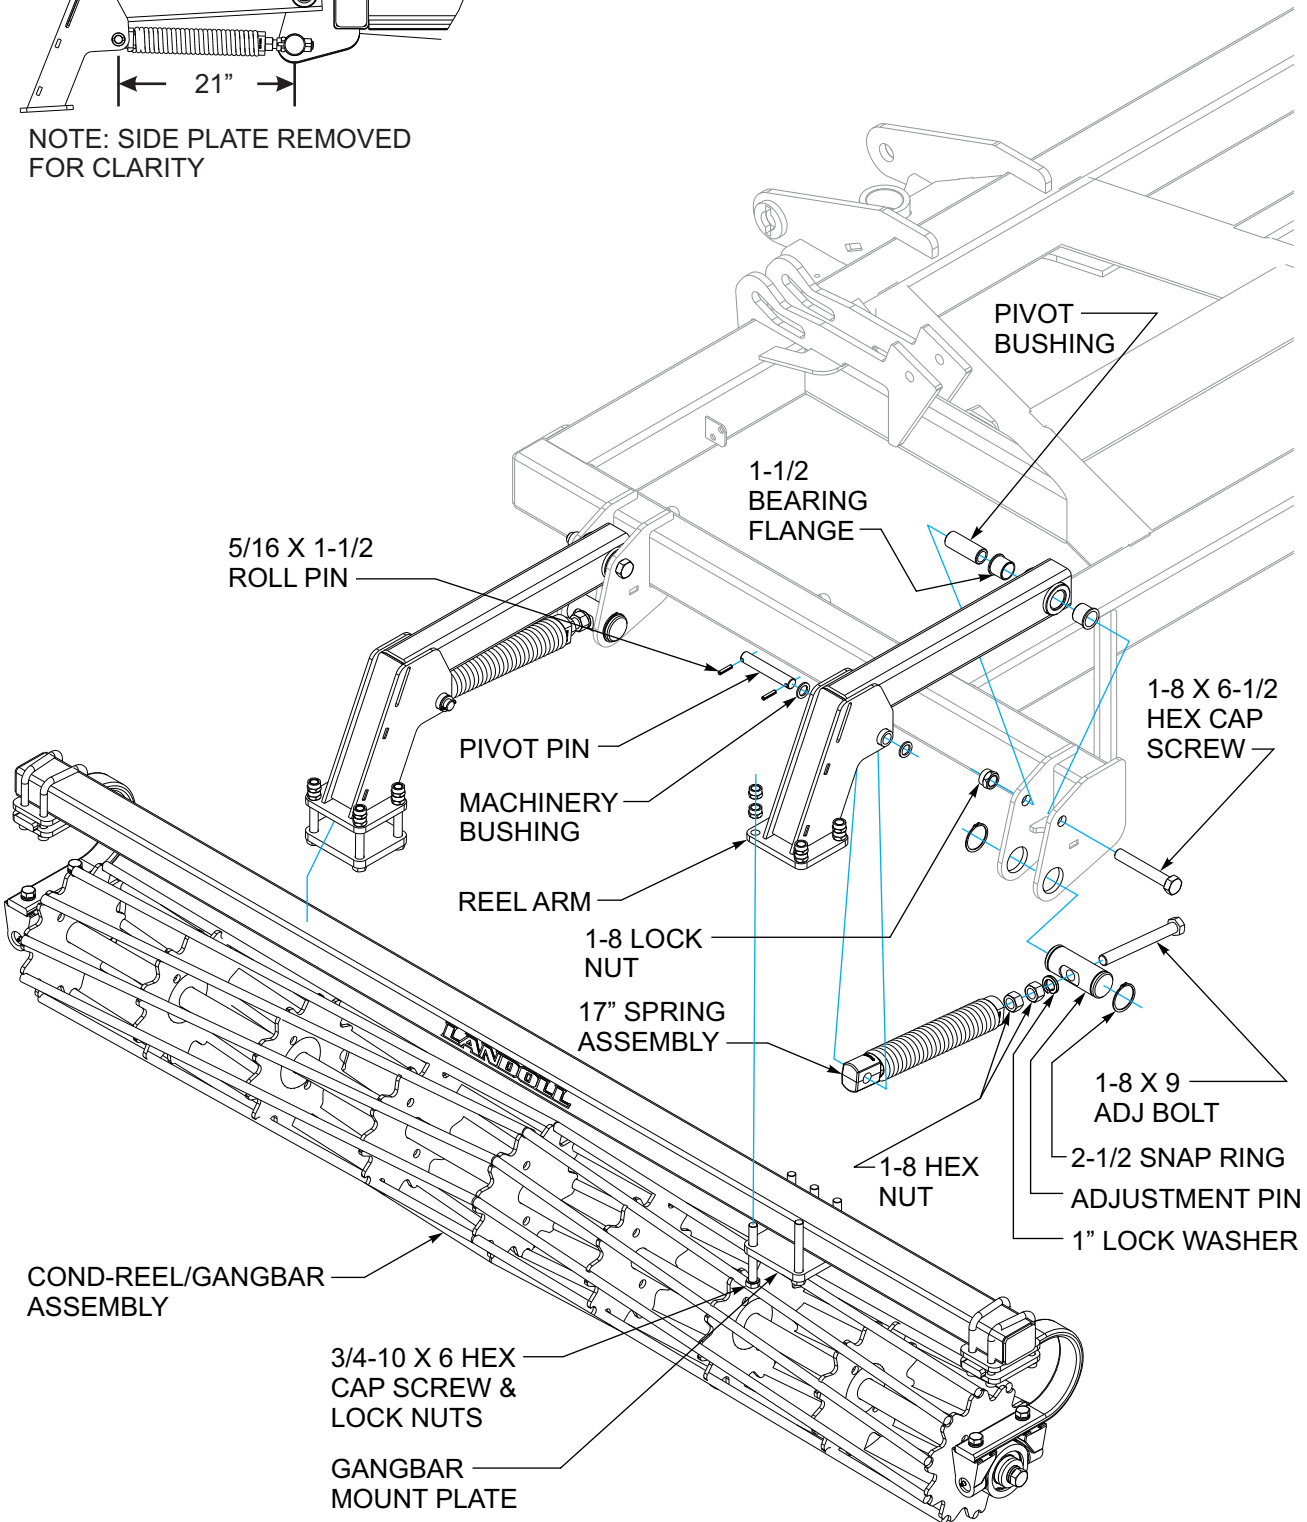
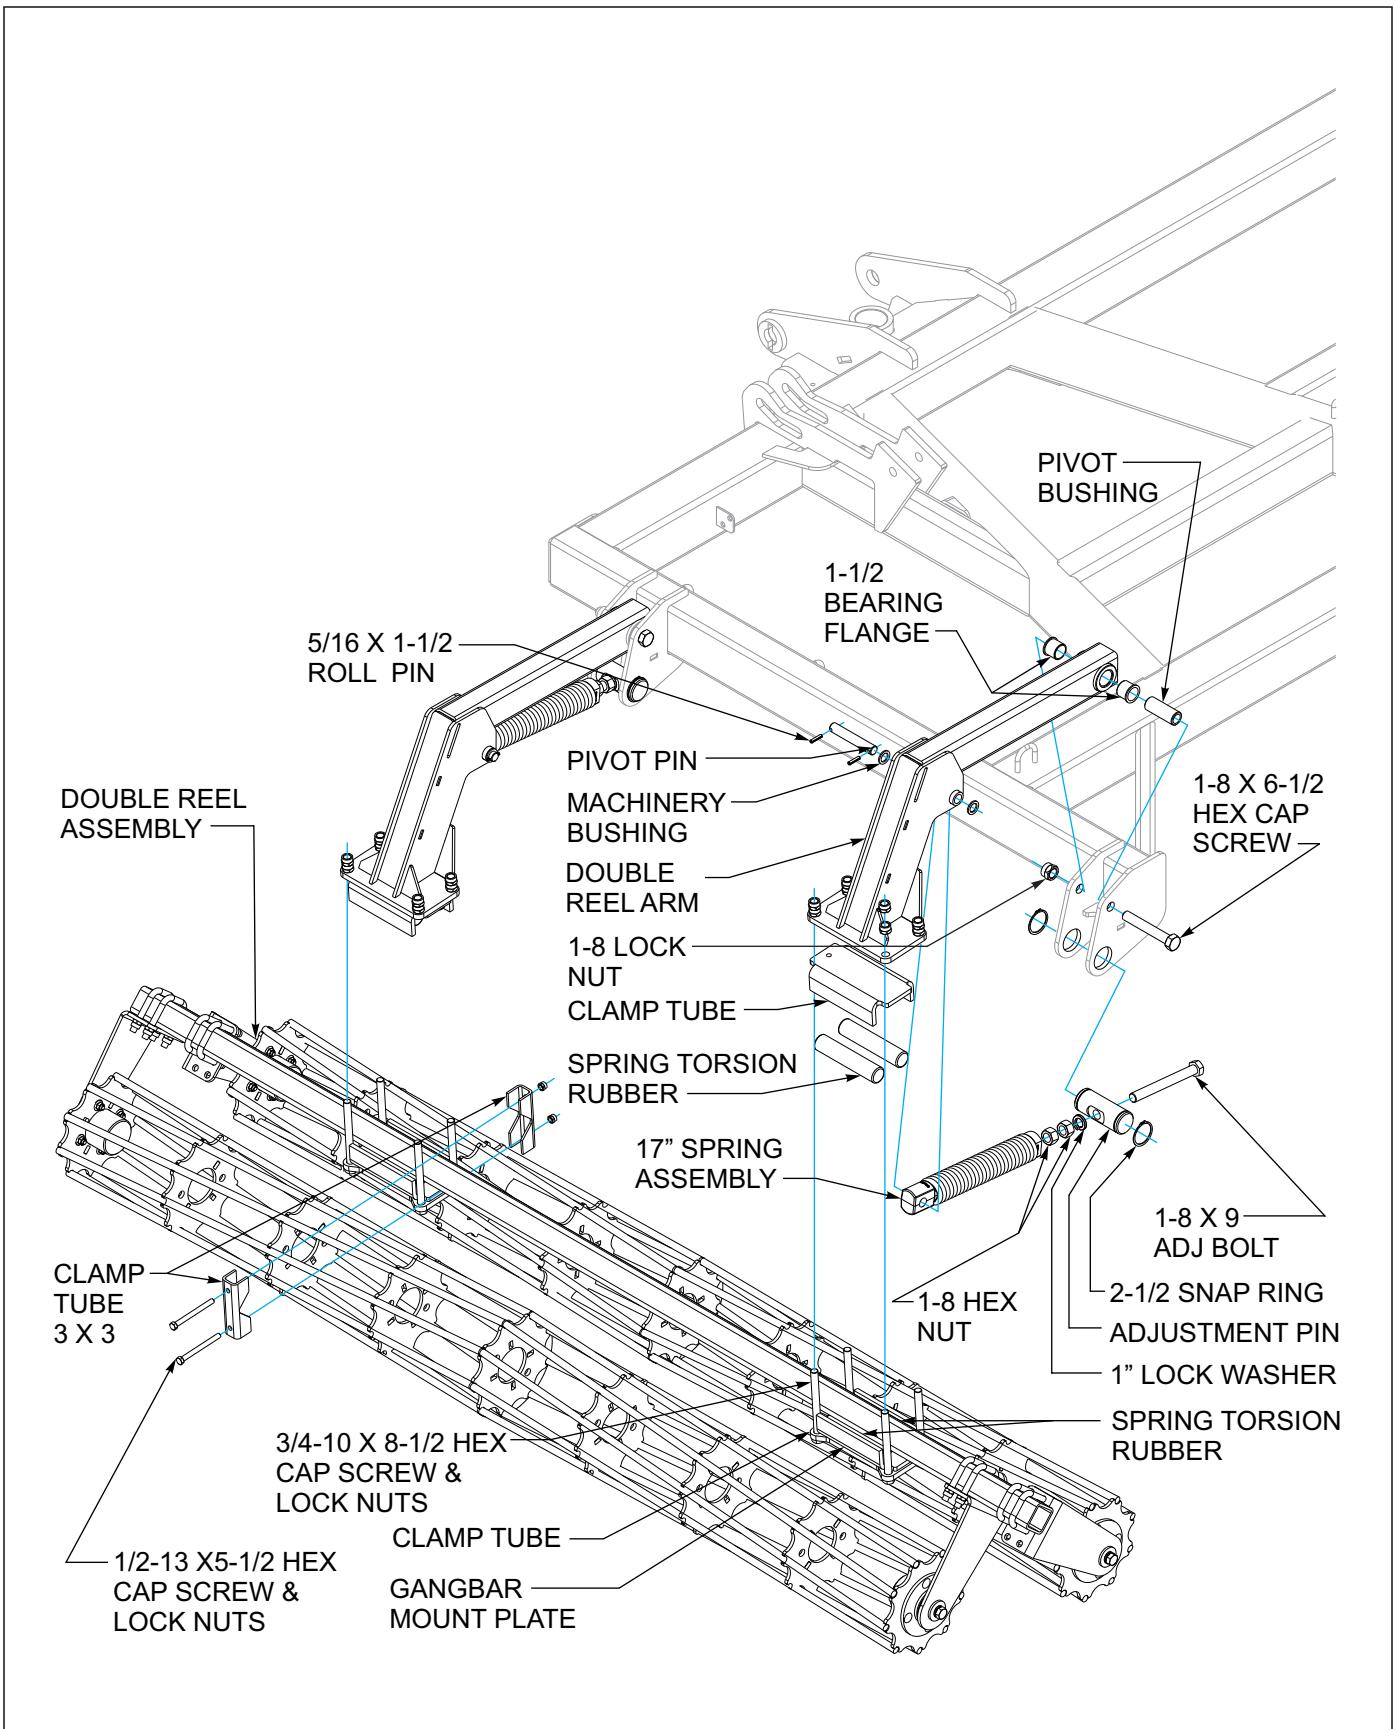
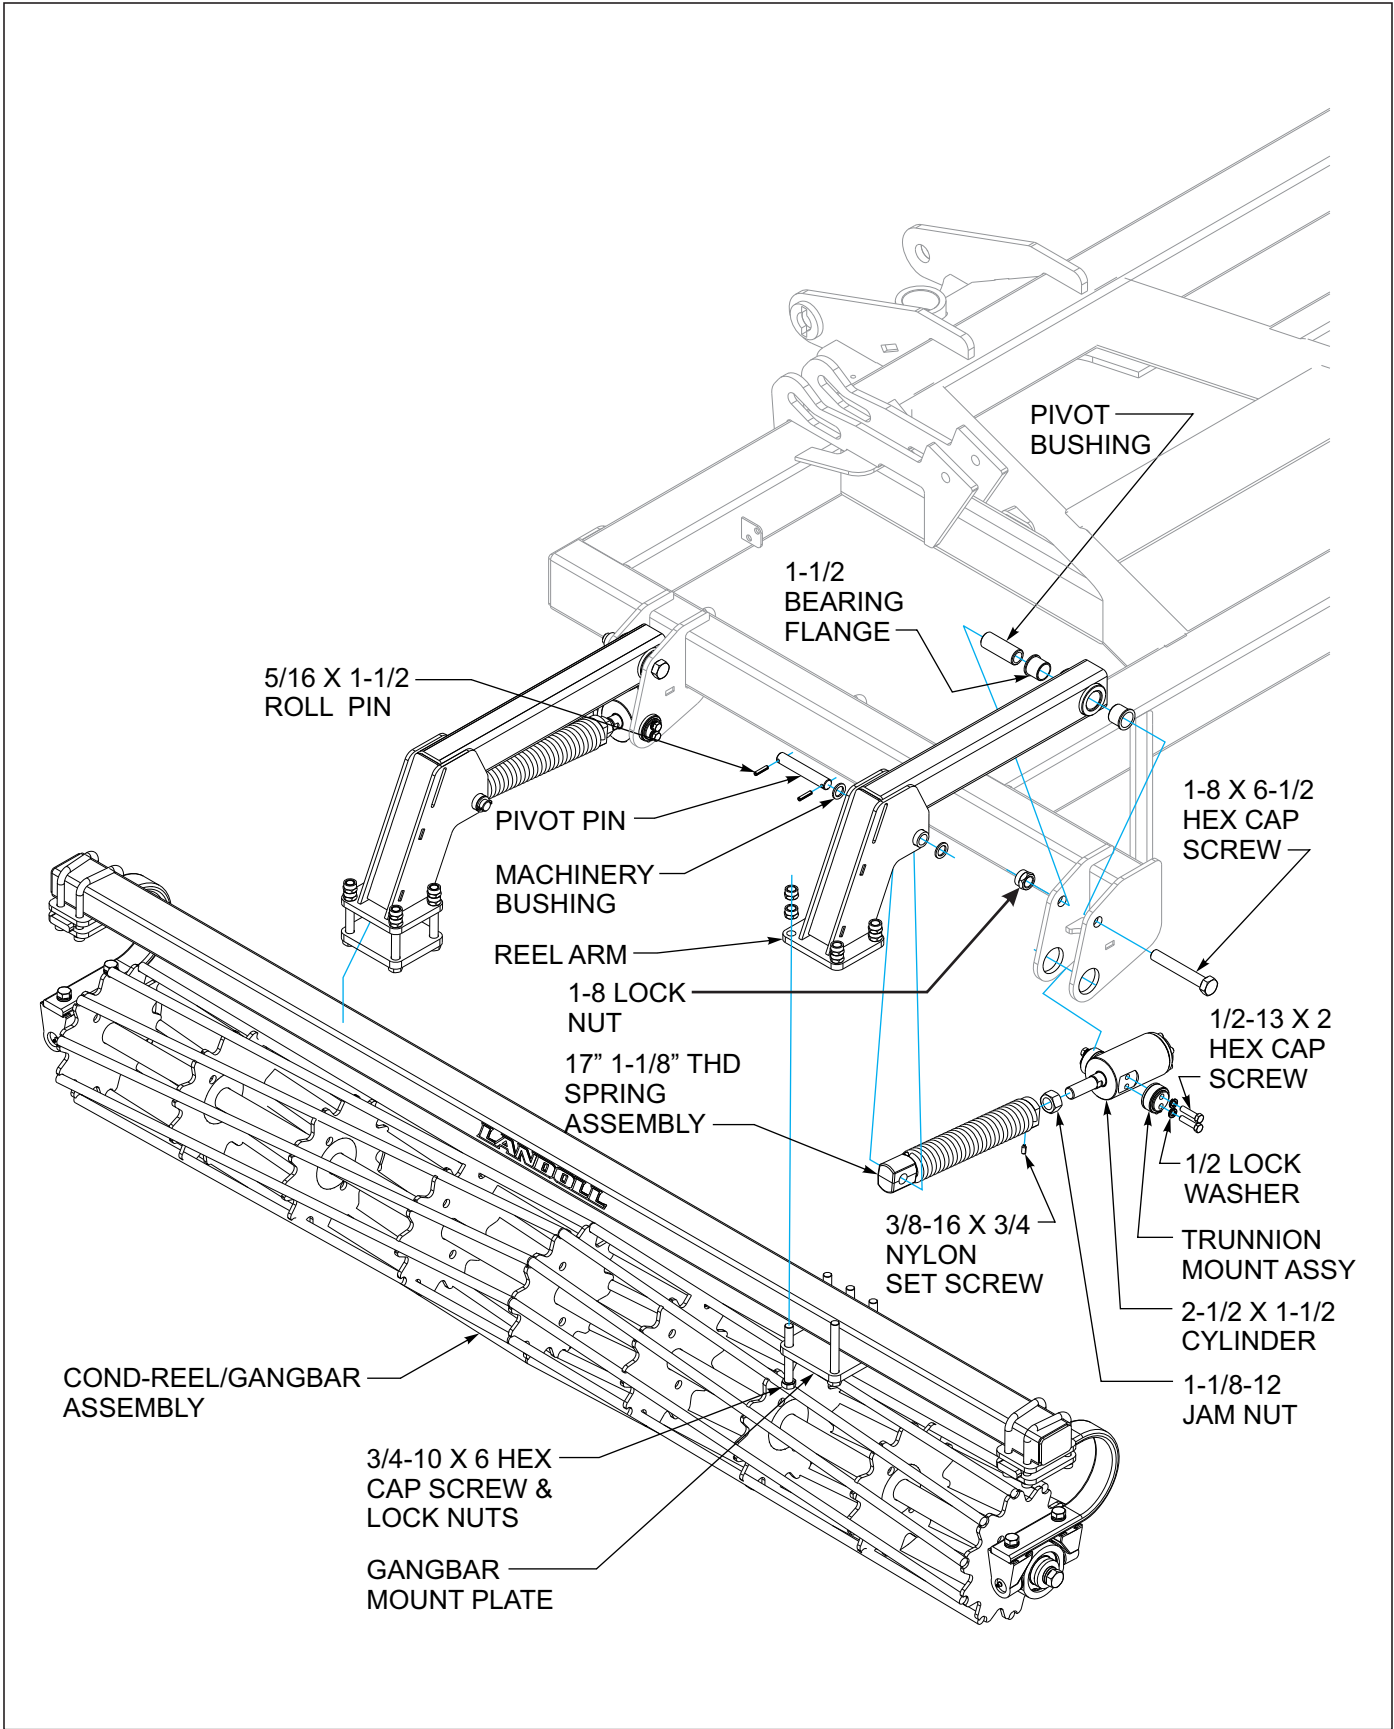

Figure 3-43: Conditioner Single Reel Installation 7530-23'-35'
Figure 3-44: Conditioner Double Reel Installation 7530-23'-32'
Figure 3-45: Hydraulic Conditioner Reel Single Installation 7530-23' - 35'
Refer to *Conditioner Single Reel Installation* shown in **Figure 3-43** for single reel installation or *Conditioner Double Reel Installation* shown in **Figure 3-44** for double reel installation.
1. Slide the adjustment pin through the rear plates of center and wing frames, secure with (2) 2-1/2" snap rings.
2. Assemble the 1-8 x 9 adj bolt through adjustment pin on frame, 1" lock washer, (2) 1-8 hex nuts, and 17" heavy spring assembly.
5. Assemble 17" heavy spring assembly to reel arm using 1" pivot pin, and 5/16 x 1-1/2" spring slotted pins. Set pin centers to 21" dimension as shown in **Figure 3-43**.
7. Attach double reel/gang bar assembly to reel arms using gang bar mount plate, (2) clamp tubes, (4) spring torsion rubber, secure with 3/4-10 x 8-1/2 hex head cap screws and double hex lock nuts as shown in **Figure 3-44**. Refer to **pages 2-18 thru 2-25** for single reel gang bar placement locations.
6. Attach single reel/gang bar assembly to reel arms using gang bar mount plate, 3/4-10 x 6 hex head cap screws and double hex lock nuts as shown in **Figure 3-43**. Refer to **pages 2-10 thru 2-13** for single reel gang bar placement locations.
Refer to *Hydraulic Conditioner Single Reel Installation* shown in **Figure 3-45** for single reel installation or *Hydraulic Conditioner Double Reel Installation* shown in **Figure 3-46** for double reel installation.
The 209666 (7530-32' hydraulic double round reel), 209676 (7530-32' hydraulic flat reel), 212043 (7530-35' hydraulic double round reel) and 212045 (7530-35' hydraulic flat reel) on center section uses two of the *Hydraulic Conditioner Double Reel Installation arm assemblies*, Refer to **Figure 3-45** and one *Conditioner Double Reel Installation arm assembly in center position*, Refer to **Figure 3-44**. for arm assemblies. Refer to **Figure 2-22** and **2-23** for proper arm placement.
3. Attach single reel/gang bar assembly to reel arms using gang bar mount plate, 3/4-10 x 6 hex head cap screws and double hex lock nuts as shown in **Figure 3-45**. Refer to **pages 2-10 thru 2-13** for single reel gang bar placement locations.